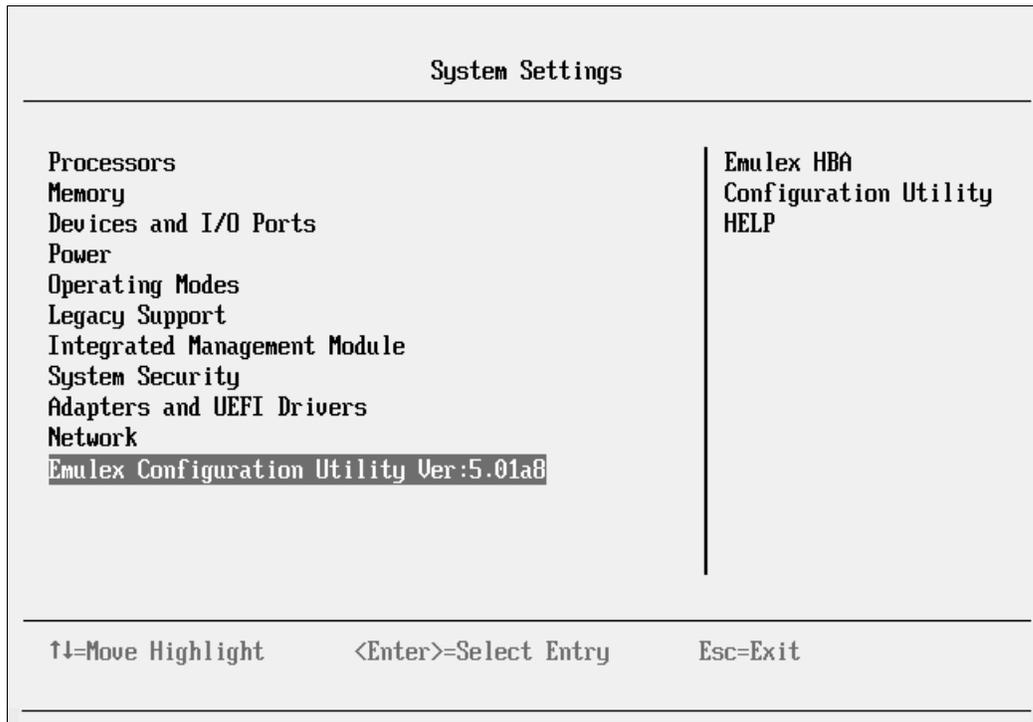

Figure 10-61 System Settings panel
4. In the System Settings panel (Figure 10-61), choose **Emulex Configuration Utility Ver:5.01a8**, then press Enter.